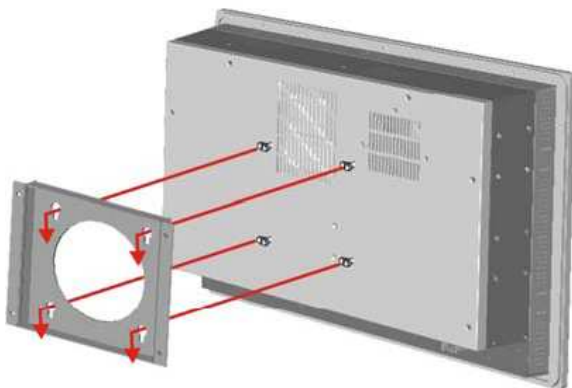

Figure 3-13: Mount the Chassis
Step 8: Carefully insert the screws through the holes and gently pull the monitor downwards until the monitor rests securely in the slotted holes (see **Figure 3-13**). Ensure that all four of the mounting screws fit snugly into their respective slotted holes.